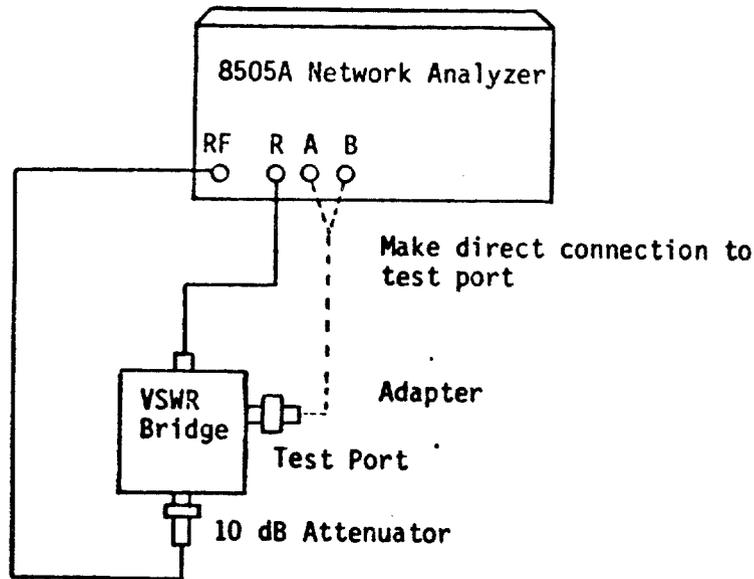

Figure A4-19 Input Impedance Test Setup
b. Connect equipment as shown in Figure A4-19.